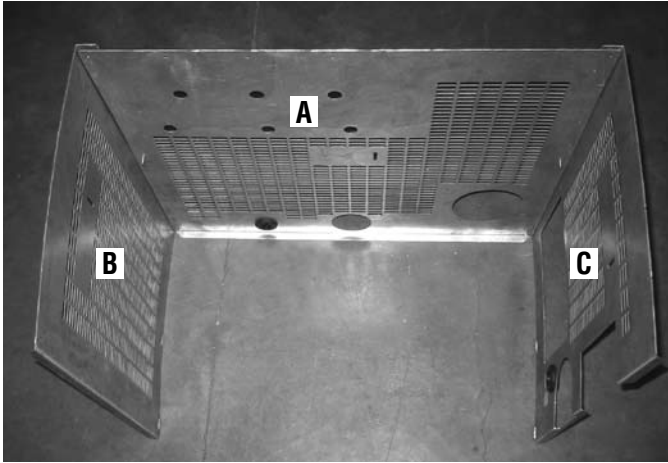

Figure 55
2. Assembling the perimeter - **Figure 55**: Using the sheet metal screws provided, attach the left side panel B and the right side panel C to the back panel A. There are 3 holes at each corner to connect the panels, at this point only install the lower two screws at each corner.